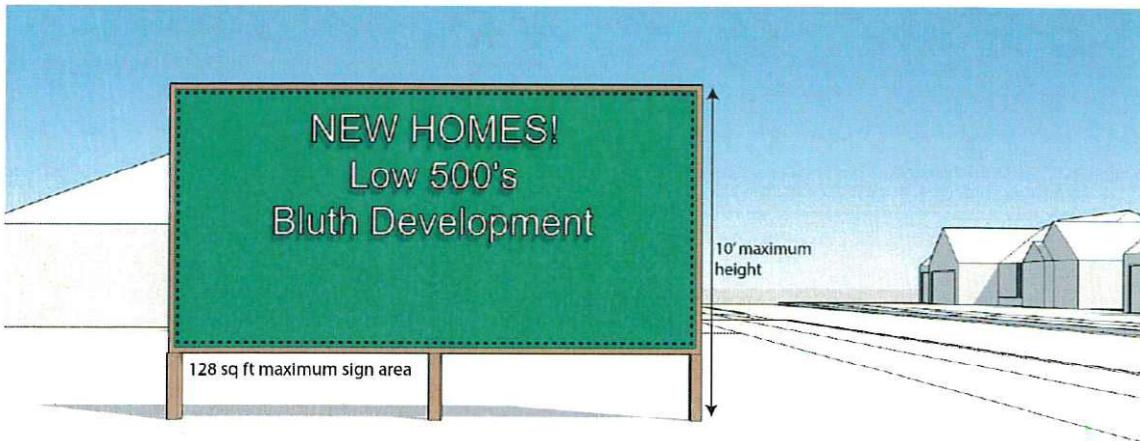

Figure 18
- 1. Residential Property for Sale. Any individual lots or parcels in a residential zone actively listed for sale may have one temporary sign not to exceed eight (8) square feet in area.
- 2. Residential Signs. One residential sign per residential property, not to exceed four (4) square feet in area.
- a. Temporary permits may be issued for a period not to exceed one year. The Planning Division may renew such permit for an additional period of one year upon written application at least thirty (30) days prior to its expiration.
- b. Unlighted temporary signs shall not exceed one hundred twenty-eight (128) square feet in area (*See Figure 18*).
- c. Unlighted temporary signs shall not exceed ten (10) feet in height.